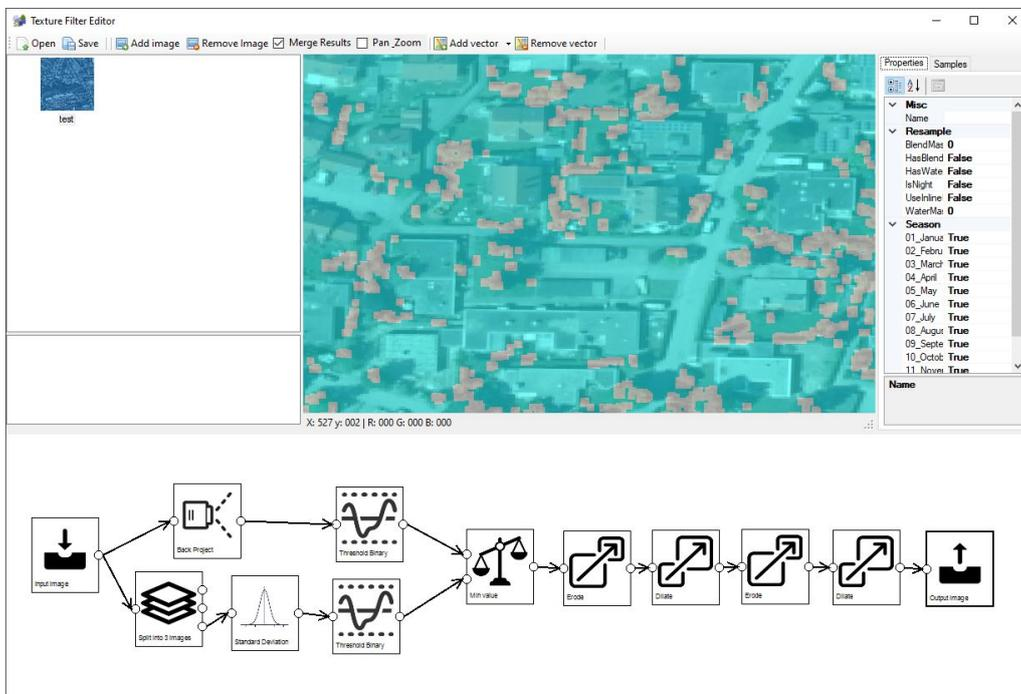

Figure 6.25: The output image with the detected vegetation merged
12. The output image, shown merged in Figure 6.25 with the input image, to see how the detection matches the input image.